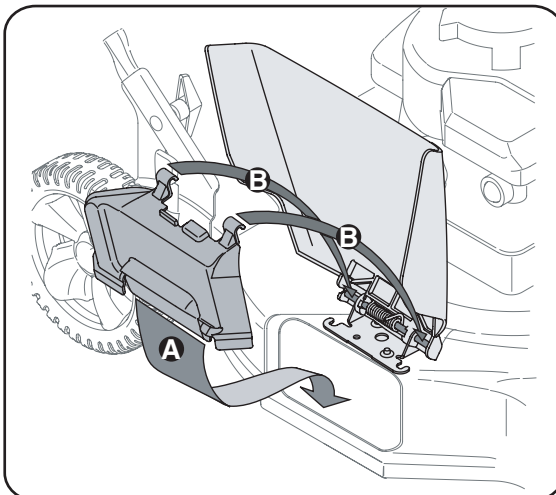

Figure 3-7
7. If your mower is equipped with an optional mulching baffle, install it as shown in Figure 3-7.